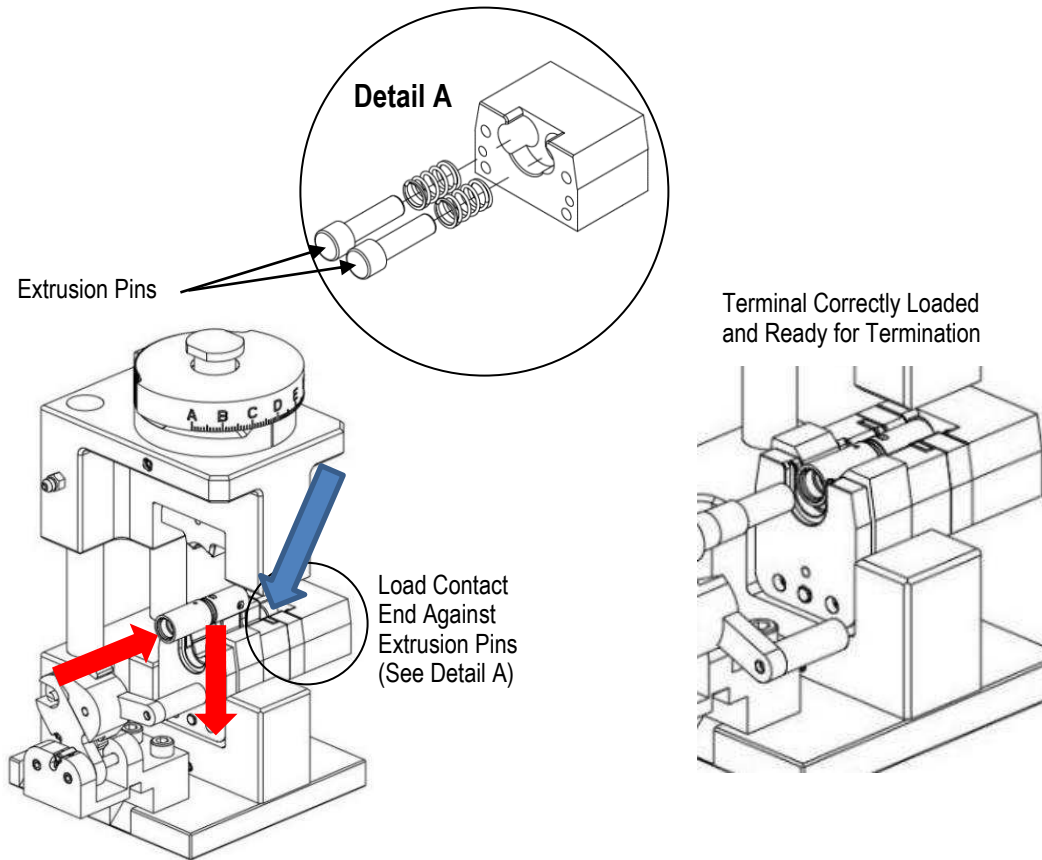

Figure 3a
1. Insert terminal into die assembly with the contact end against the extrusion pins (see Figure 3a).